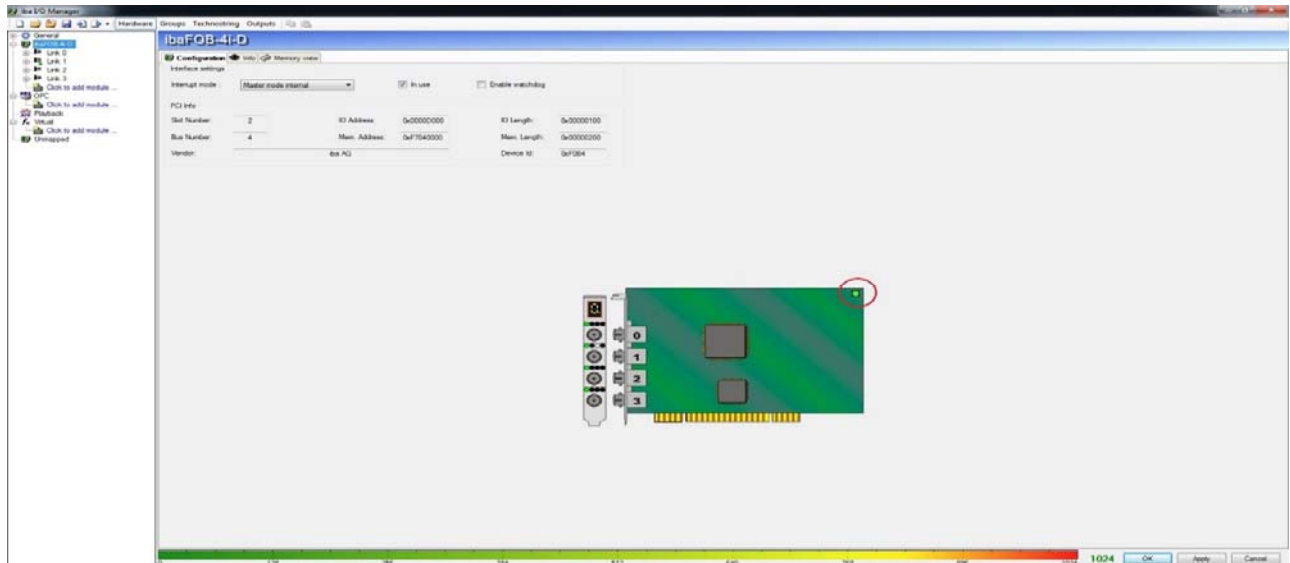

Figure 7: Iba I/O Manager
- In IBA I/O Manager, on the left hand side it shows the type of card installed. Click on the card (IbaFOB-4i-D in our case as shown in Figure 7). In the Configuration window the status of card is shown (Look for a green Light on the Top Right of the Card.) as in Figure 7.